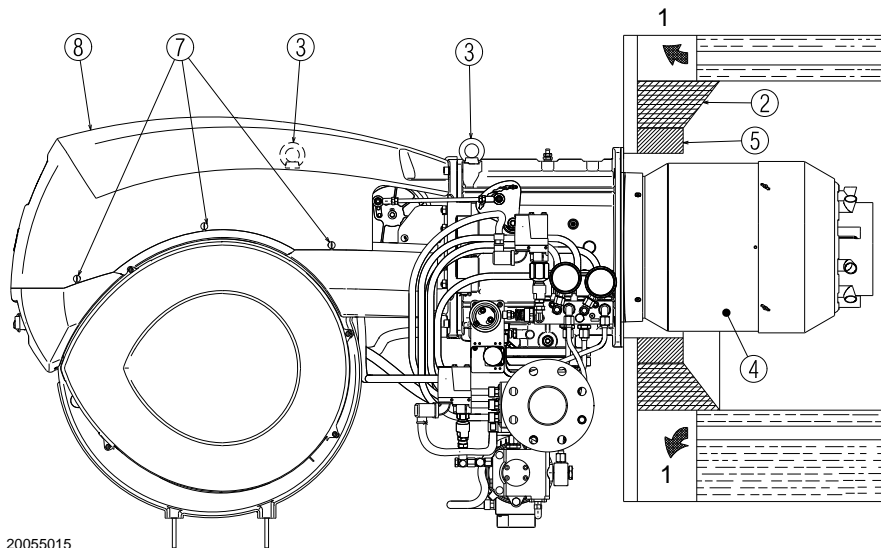

Fig. 10
For boilers with front flue passes 1)(Fig. 10) or flame inversion chambers, protective fettling in refractory material 5) must be inserted between the boiler fettling 2) and the blast tube 4).
For boilers having a water-cooled front the refractory fettling 2)-5)(Fig. 10) is not required unless it is expressly requested by the boiler manufacturer.
Prepare an adequate system of hoisting by hooking onto the rings 3)(Fig. 10).
- Slip the thermal protection (standard equipment) onto the blast tube 4)(Fig. 10).